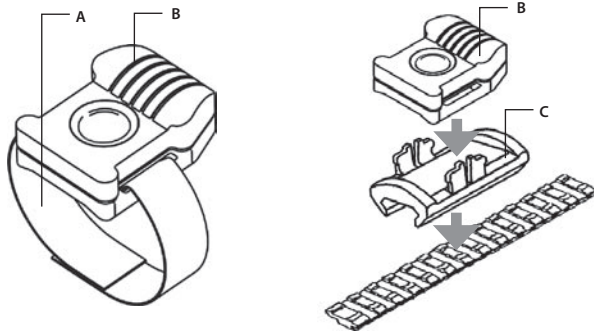

FIGURE 3-11. ADVANCED WIRELESS REMOTE CONTROL
Using Velcro tape (A), fasten the Advanced Wireless Remote Control (B) (Figure 3-11) to your weapon in an easily accessible place (e.g., on the front of the rifle stock) on the side of the CO-LR's control compartment preferably.